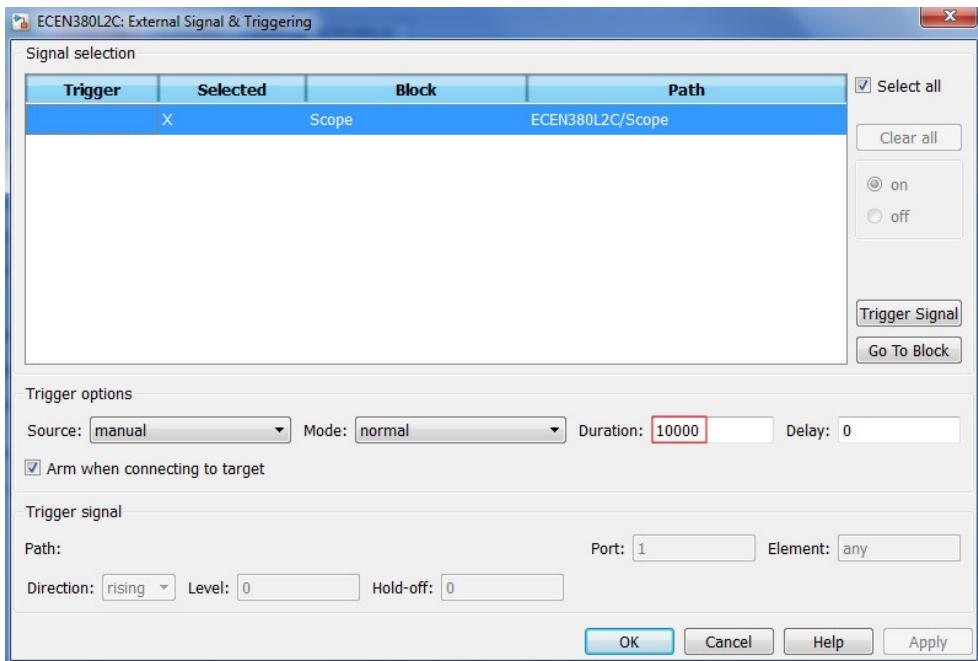

Figure 15 – Signal & Triggering
19. From there, click the `Signal & Triggering ...` button. Set the duration to 10000 (see Figure 15). Press OK.